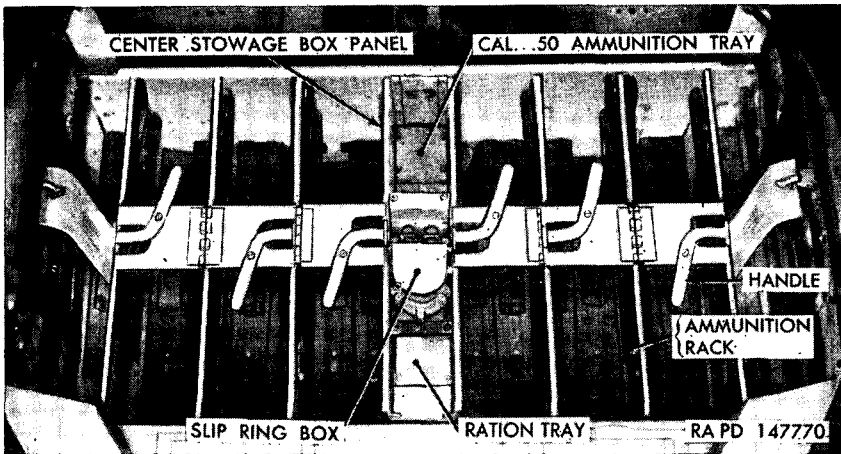

Figure 288. Ammunition stowage boxes.
- (1) *Depress 90-mm gun.* Depress the 90-mm gun to its lowest position (par. 76).
- (2) *Remove the slip ring box.* Refer to paragraph 296.
- (3) *Remove ration tray.* Remove the rear center compartment cover plate assembly (ration tray cover) by removing two mounting screws. Remove ration tray, secured by four screws (fig. 288).
- (4) *Remove cal. .50 ammunition tray.* Remove the front center compartment cover plate assembly (cal. .50 ammunition tray cover) by removing two mounting screws. Remove ammunition tray by removing eight mounting screws (fig. 288).
- (5) *Remove accessible ammunition racks.* Remove the bolts and lock washers securing the accessible ammunition racks to hull floor, and remove the racks.
- (6) *Remove the two center stowage box panels.* Remove the clips resuring electrical cables to the sides of the center stowage box panels. Remove the bolts and lock washers holding the center panels at the ends and at the bottom. Remove the two center panels by lifting them out through the loader's door.
b. INSTALLATION (fig. 288).
- (1) *Install stowage box panels and plates* (fig. 288). Lower the panels and plates through the loader's door. Slide panels and plates into the guides welded to bulkheads.
- (2) *Install ammunition racks.* Lower the racks through the loader's door. Position the ammunition racks on hull floor and secure them by installing bolts and lock washers (fig. 288).
- (3) *Install center panels.* Place the two center stowage box panels into position and secure them to the bulkheads and hull floor by installing bolts and lock washers at their ends and bottom. Secure the clips holding electrical cables to the center panels.
- (4) *Install cal. .50 ammunition tray.* Install cal. .50 ammunition tray, securing with eight screws. Install the front center compartment cover plate assembly (ammunition tray cover) by securing with two screws.
- (5) *Install ration tray.* Install ration tray, securing it with four screws. Install the rear center compartment cover plate assembly (ration tray cover), securing with two screws.
- (6) *Install slip ring box.* Refer to paragraph 296.
- (7) *Close stowage box plates.* Close the stowage box plates by means of the handles provided for closing and opening (fig. 288).
- (8) *Elevate the 90-mm gun.* Refer to paragraph 76.